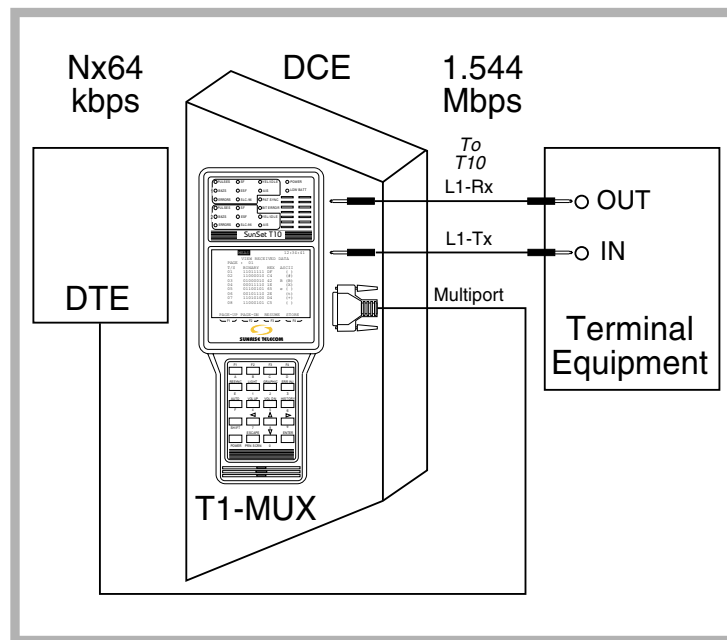

Figure 191 Emulating a Terminal Multiplex
4. Connect the SunSet T10 to the circuit according to Figure 191.
- In Figure 191, the DTE supplies the transmitted 64 kbps signal, to the SunSet T10 through the multiport. The SunSet T10 multiplexes this 64 kbps signal onto a 1.544 Mbps T1 signal, which is then transmitted through the T1 L1-Tx jack.
In Figure 191, the SunSet T10 is connected to an IN/OUT